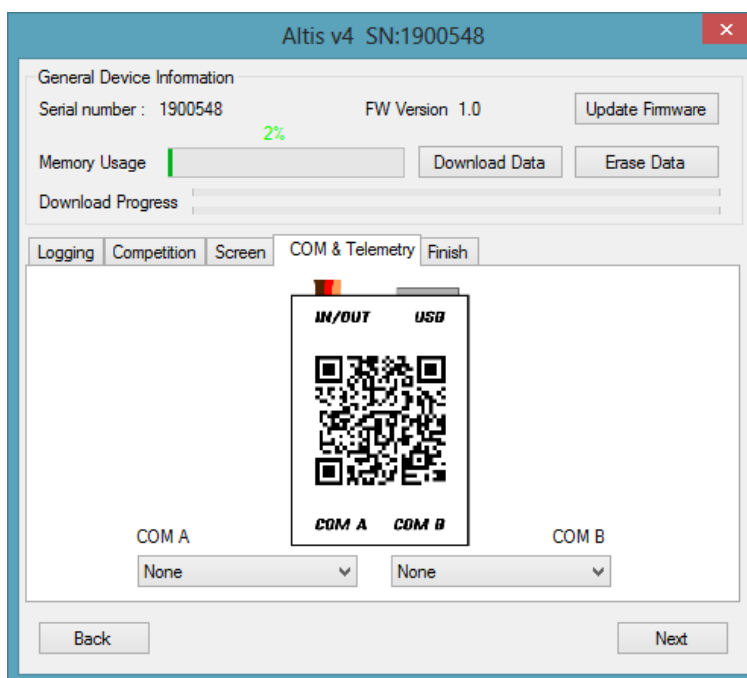

*Fig 11: Screen settings*
**Screen** (Fig 11) – Your Altis v4 has an OLED display. There are several screens that can be shown on the display. They are described in the Altis v4 screens chapter. (See page 7). The Screens tab allows you to choose the between the F5J screen or User defined screen. In the User defined screen there are 3 or 6 possible lines of text which can be displayed. You can select the displayed parameters for each line.